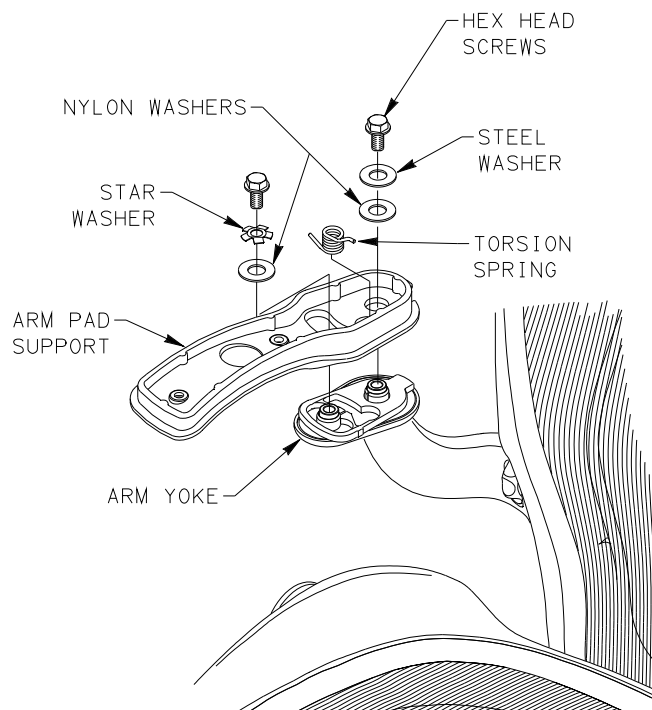

FIGURE 3
2. USING 13MM SOCKET AND RATCHET WRENCH, REMOVE AND SAVE HEX HEAD SCREWS, STAR WASHER, STEEL WASHER, AND NYLON WASHERS SECURING ARM PAD SUPPORT TO ARM YOKE. REMOVE ARM PAD SUPPORT FROM ARM YOKE. REMOVE TORSION SPRING FROM ARM PAD SUPPORT AND SET ASIDE. PROPERLY DISPOSE OF ARM PAD SUPPORT. SEE FIGURE 3.
3. INSTALL REPLACEMENT ARM PAD SUPPORT TO ARM YOKE AND REINSTALL NYLON WASHERS, STAR WASHER AND STEEL WASHER SECURING WITH HEX HEAD SCREWS. TIGHTEN AND TORQUE SCREWS TO 200-250 IN-LBS. SEE FIGURE 3.